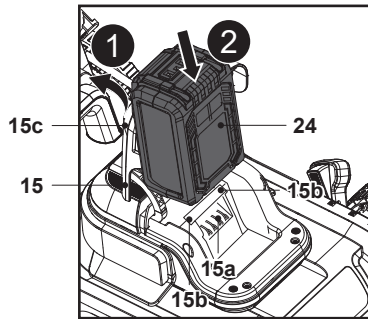

Fig. 8
1. Lift the magnetic lid (15c) and open the battery compartment cover (15) (Fig. 8, step 1).
2. Align the battery pack (24) with the two sliding slots (15b) and slide the battery pack (24) in to attach it (Fig. 8, step 2).
3. Make sure that the electrical contacts (15a) are fully inserted into the battery pack (24) and that it snaps in place with a click.
4. The battery pack (24) can only be installed in one direction.
5. Carefully close the battery compartment cover (15).